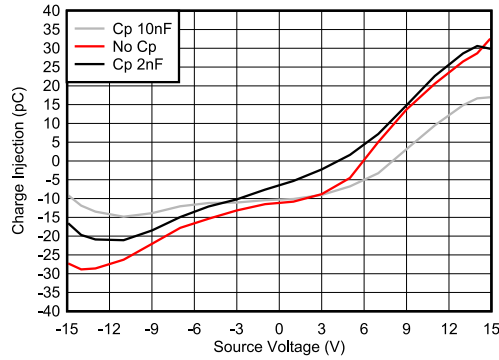

图 7-2. Charge Injection Compensation
The TMUX7234 contains specialized architecture to reduce charge injection on the source (Sx). To further reduce charge injection in a sensitive application, a compensation capacitor (C_p) can be added on the drain (D). This will ensure that excess charge from the switch transition will be pushed into the compensation capacitor on the drain (D) instead of the source (Sx). As a general rule of thumb, C_p should be 20x larger than the equivalent load capacitance on the source (Sx). 图 7-2 shows charge injection variation with different compensation capacitors on the drain side. This plot was captured on the TMUX7219 as part of the TMUX72xx family with a 100pF load capacitance.